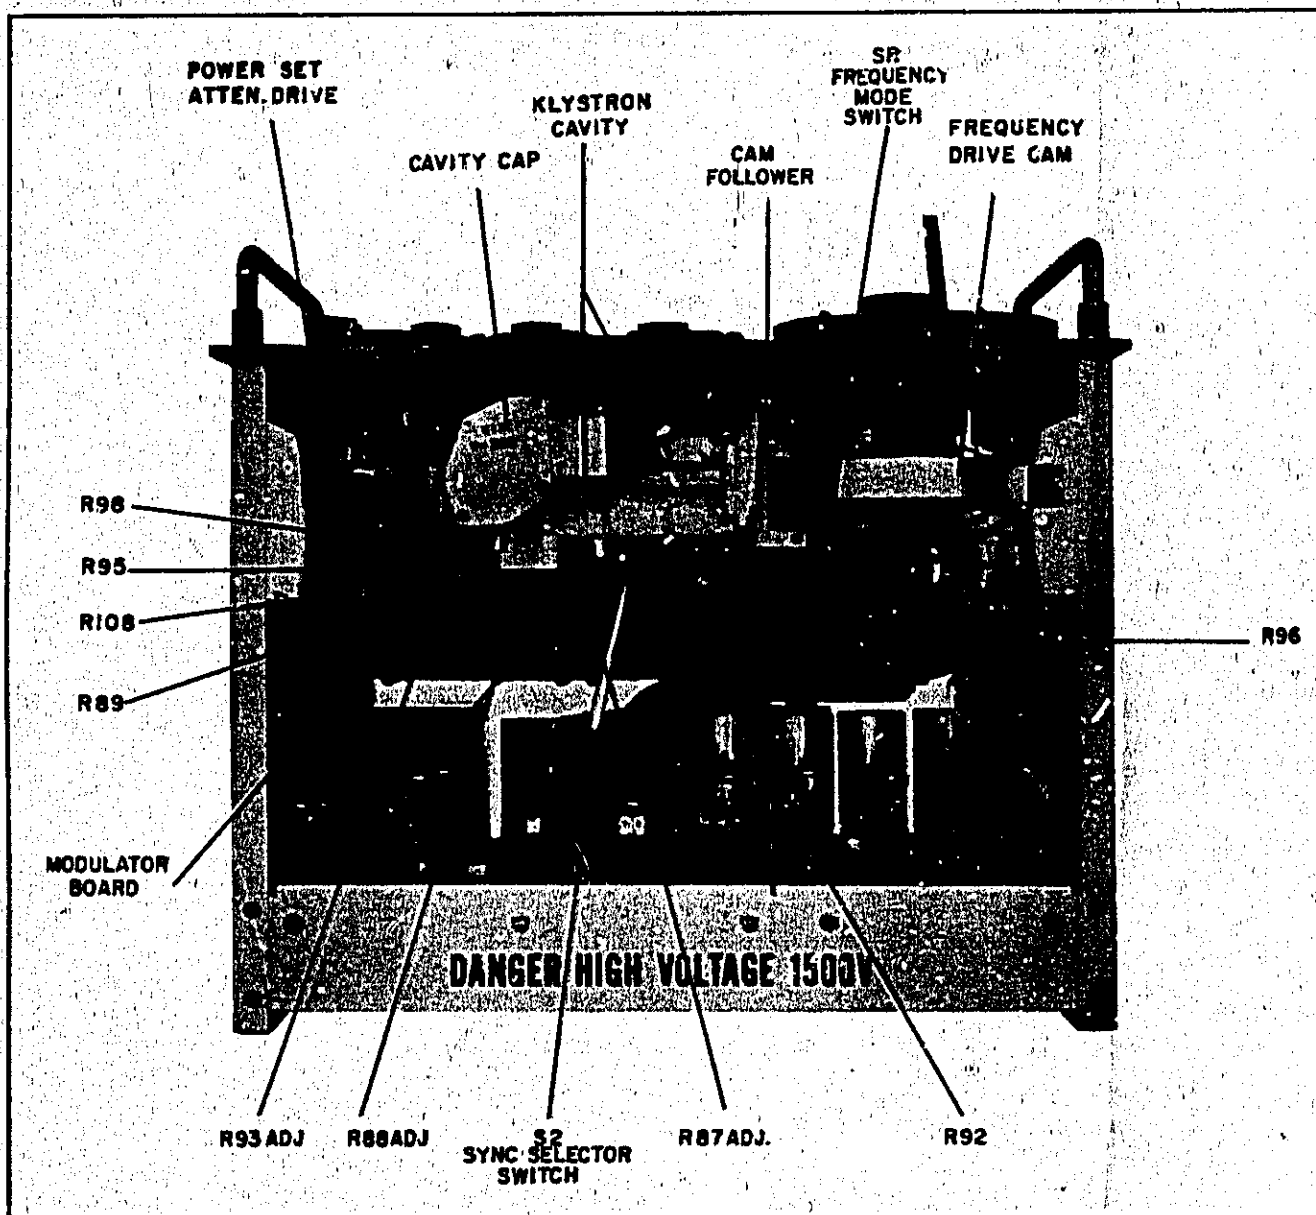

Figure 5-10. Top View Showing Location of Reflector Tracking Pots
f. Set potentiometers R89 and R95 (Figure 5-10) to approximate center of range over which they can be rotated. These two controls are located on an insulated bracket mounted on the bottom edge of modulator assembly.
5-48. INITIAL TRACKING PROCEDURE. Refer to Figure 5-10 and proceed as follows: